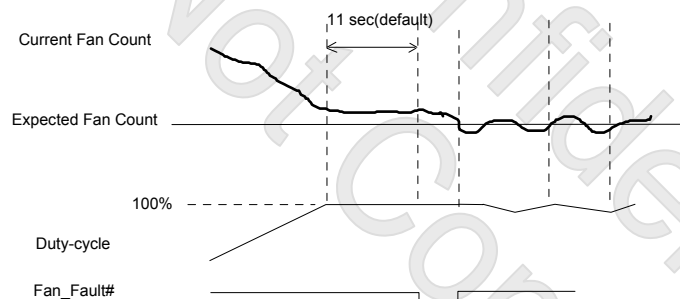

Figure 6-3
(1). When PWM\_Duty reaches FFh, the fan speed count can't reach the fan expected count in time. (Figure 6-3)